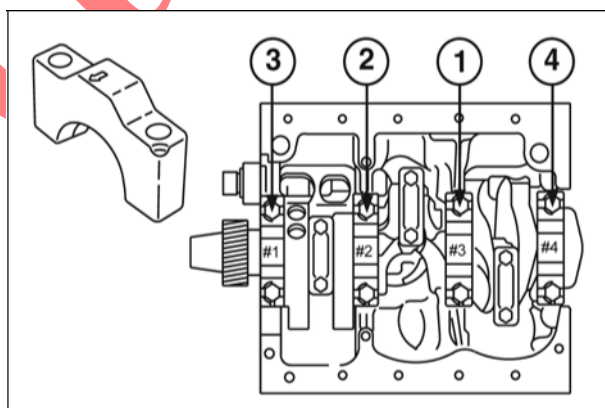

Figure 4
11. Start with Number 3 bearing cap (Figure 4) and torque bearing caps one at a time in sequence shown to values listed in Section 14 - Engine Specifications.